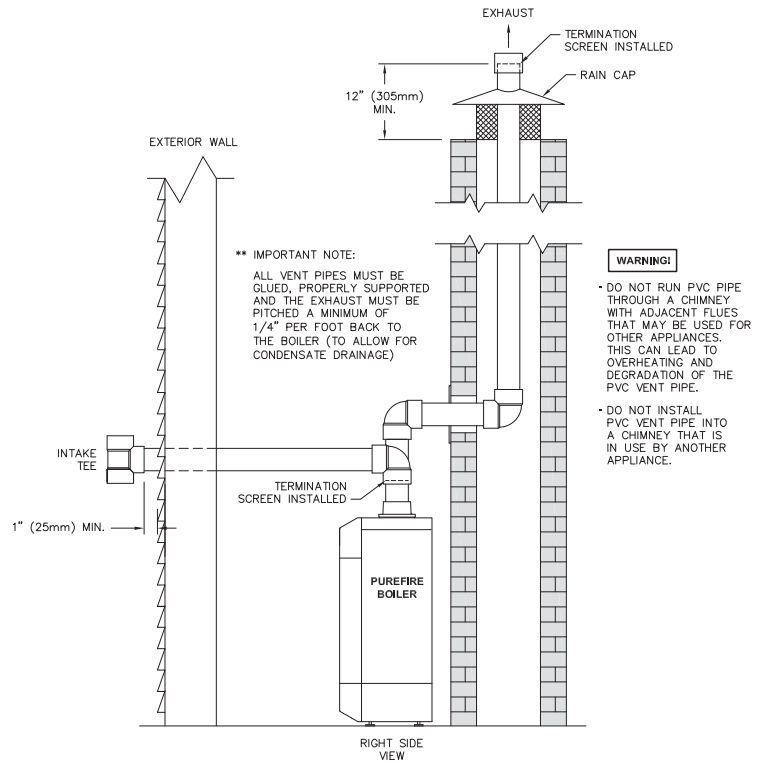

Figure 3.11: Venting Through a Chimney Using Sidewall Outside Air
- Figure 3.11 shows this option using inlet air from a sidewall position.